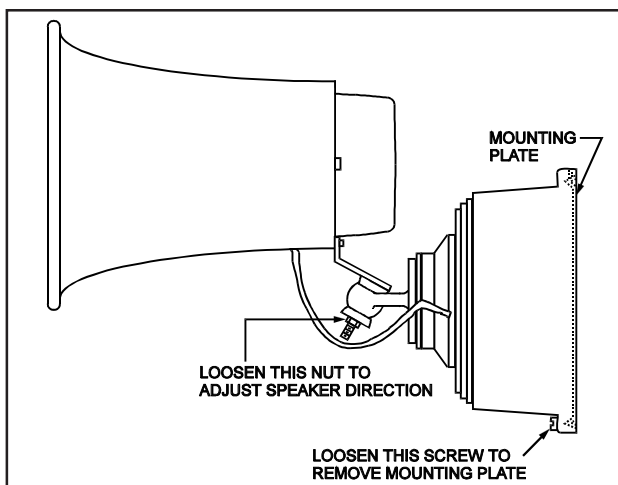

Figure 2. Mounting Plate Removal and Speaker Directional Adjustment
- Loosen the screw at the bottom of the signal housing and remove the mounting plate from the signal (Figure 2).
1. Loosen the screw at the bottom of the signal housing and remove the mounting plate from the signal (Figure 2).
To adjust the speaker direction, loosen the nut shown in Figure 2. Rotate the speaker to the desired position and tighten the nut. The speaker position can be adjusted within a 90° range vertically and 180° range horizontally.